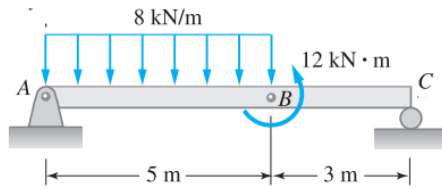

Figure 3
- 4 a) For the beam shown in Figure 3, draw the shear force and bending moment diagrams. [7M]